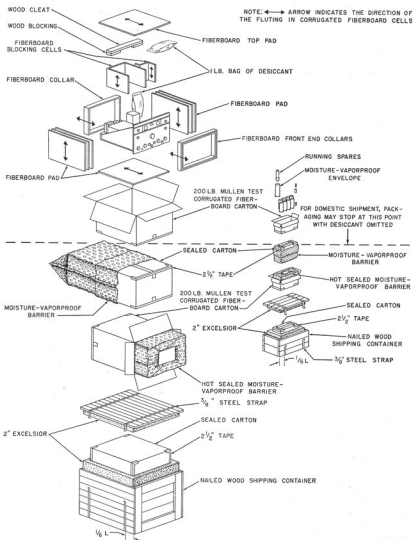

Figure 8. Packing and packaging of radio receiver.
a. When packaged for export shipment, Radio Receiver R-320/FRC and its running spares are placed in moistureproof-vaporproof containers and packed in two wooden export crates. An exploded view of the packaged equipment is shown in figure 8. The size, weight, and volume of each crate are given in the following chart:
a. GENERAL. Equipment may be shipped in overseas or domestic packing cases (fig. 8). When new equipment is received, select a location where the equipment can be unpacked without exposure to the elements and which is convenient to the permanent or semipermanent installation of the equipment. The instructions in *b* below apply to equipment shipped in export packing cases, and the instructions in subparagraph *e* apply to equipment shipped in domestic packing cases.
b. STEP-BY-STEP INSTRUCTIONS FOR UNCRATING AND UNPACKING EXPORT SHIPMENTS (fig. 8).
- (1) Place the packing case as near the operating position as convenient.
- (2) Cut and fold back the steel straps.
- (3) Remove the nails with a nail puller. Remove the top and one side of the packing case. Do not attempt to pry off the side and top; the equipment may be damaged.
- (4) Remove the waterproof barrier and excel-
- (5) Remove the carton from the case and place it on a workbench on another clean dry place.
- (6) Inspect the carton for possible damage during shipment.
c. OPENING CARDBOARD CONTAINERS (fig. 8).
- (1) Use a sharp-pointed instrument to open the outer carton, the moistureproof-vaporproof barrier, and the inner carton.
- (2) Remove the top pad, blocking cells, collars, and bags of desiccant.
- (3) Lift out the radio receiver from the inner carton and place it on a workbench or other secure flat support.